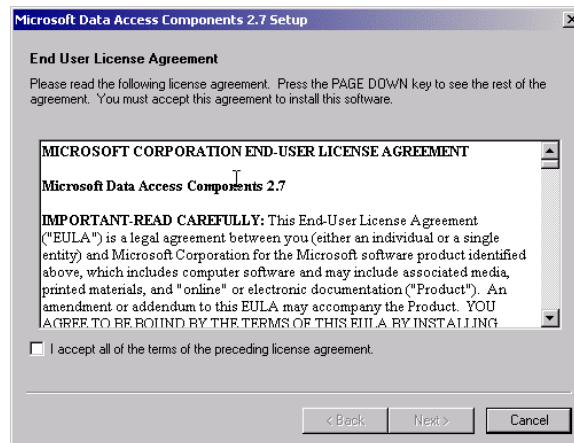

Figure 2.6
- The actual installation of MDAC itself will begin after the user clicks **Yes** on a Microsoft License Agreement. See **Figure 2.6**. Please read carefully and then if you agree, click on the check box that says, “I accept all of the terms of the preceding license agreement”.